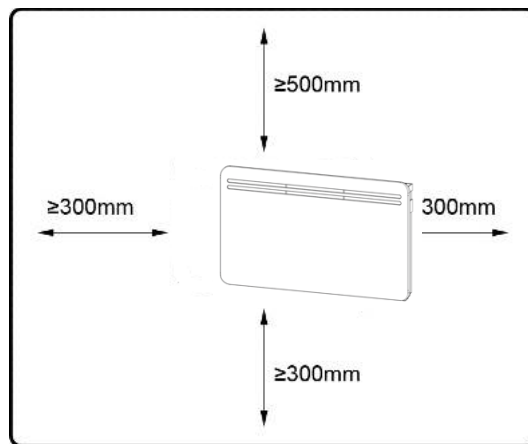

Fig. 1
1/Determine the appropriate location (Fig. 1)
- Respect the minimum distances between the appliance and the walls, floor, furniture, curtains, etc. (as requested in Fig. 1).
1. Make sure to keep at least 30 cm distance between the radiator and the floor, wall, etc. (Fig. 1).